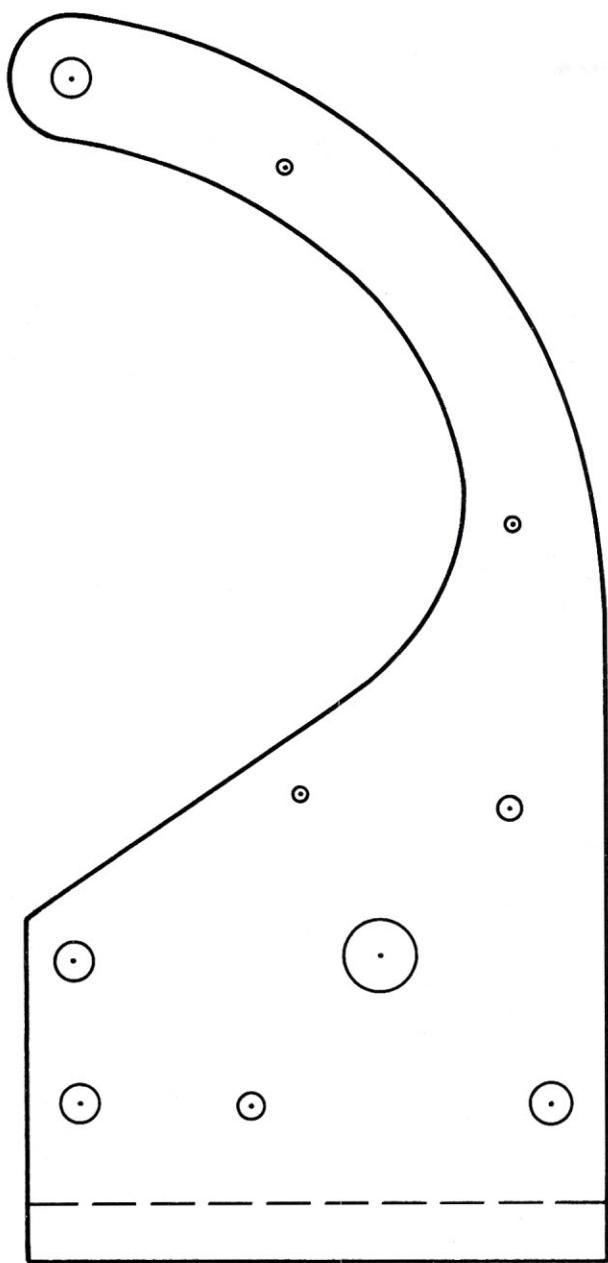

Figure 1: Template for the front finger plate.
The front and back finger plates (figures 1 and 2) are cut out of $\frac{1}{16}$ -inch sheet aluminum with a metal cutting bandsaw. The radii are finished with a small grinding wheel. Each finger plate's bottom has a 90-degree tab formed by clamping the plate in a vise with about $\frac{1}{8}$ inch protruding from the
- Two front finger plates made from $1/16$ inch sheet aluminum (see figure 1).